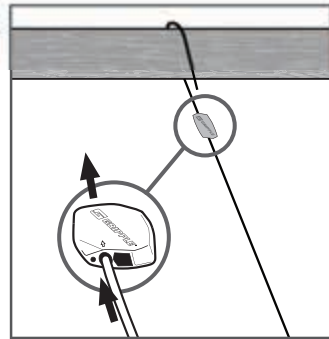

FIGURE 4: THREAD GRIPPLE
1. Thread Gripper onto cable (see inset detail). Pass over ceiling anchor point (as shown) or through other secure anchor point of the building structure. Installer is responsible for ensuring that anchor point is secure to building structure. (See figure 4).